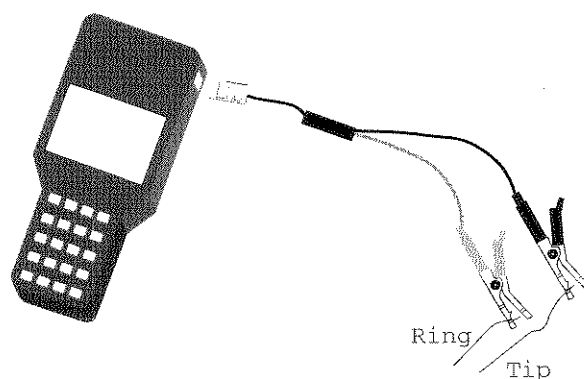

Figure 6-12 Connecting the SunSet to the Cable Pair
- 1) Connect the SunSet to the circuit with the TDR/LINE/DMM jack. A sample diagram is shown in Figure 6-12. Plug an RJ-45 into the SunSet's TDR/TIMS/DMM jack. Connect the alligator clips at the other end directly to the cable pair.